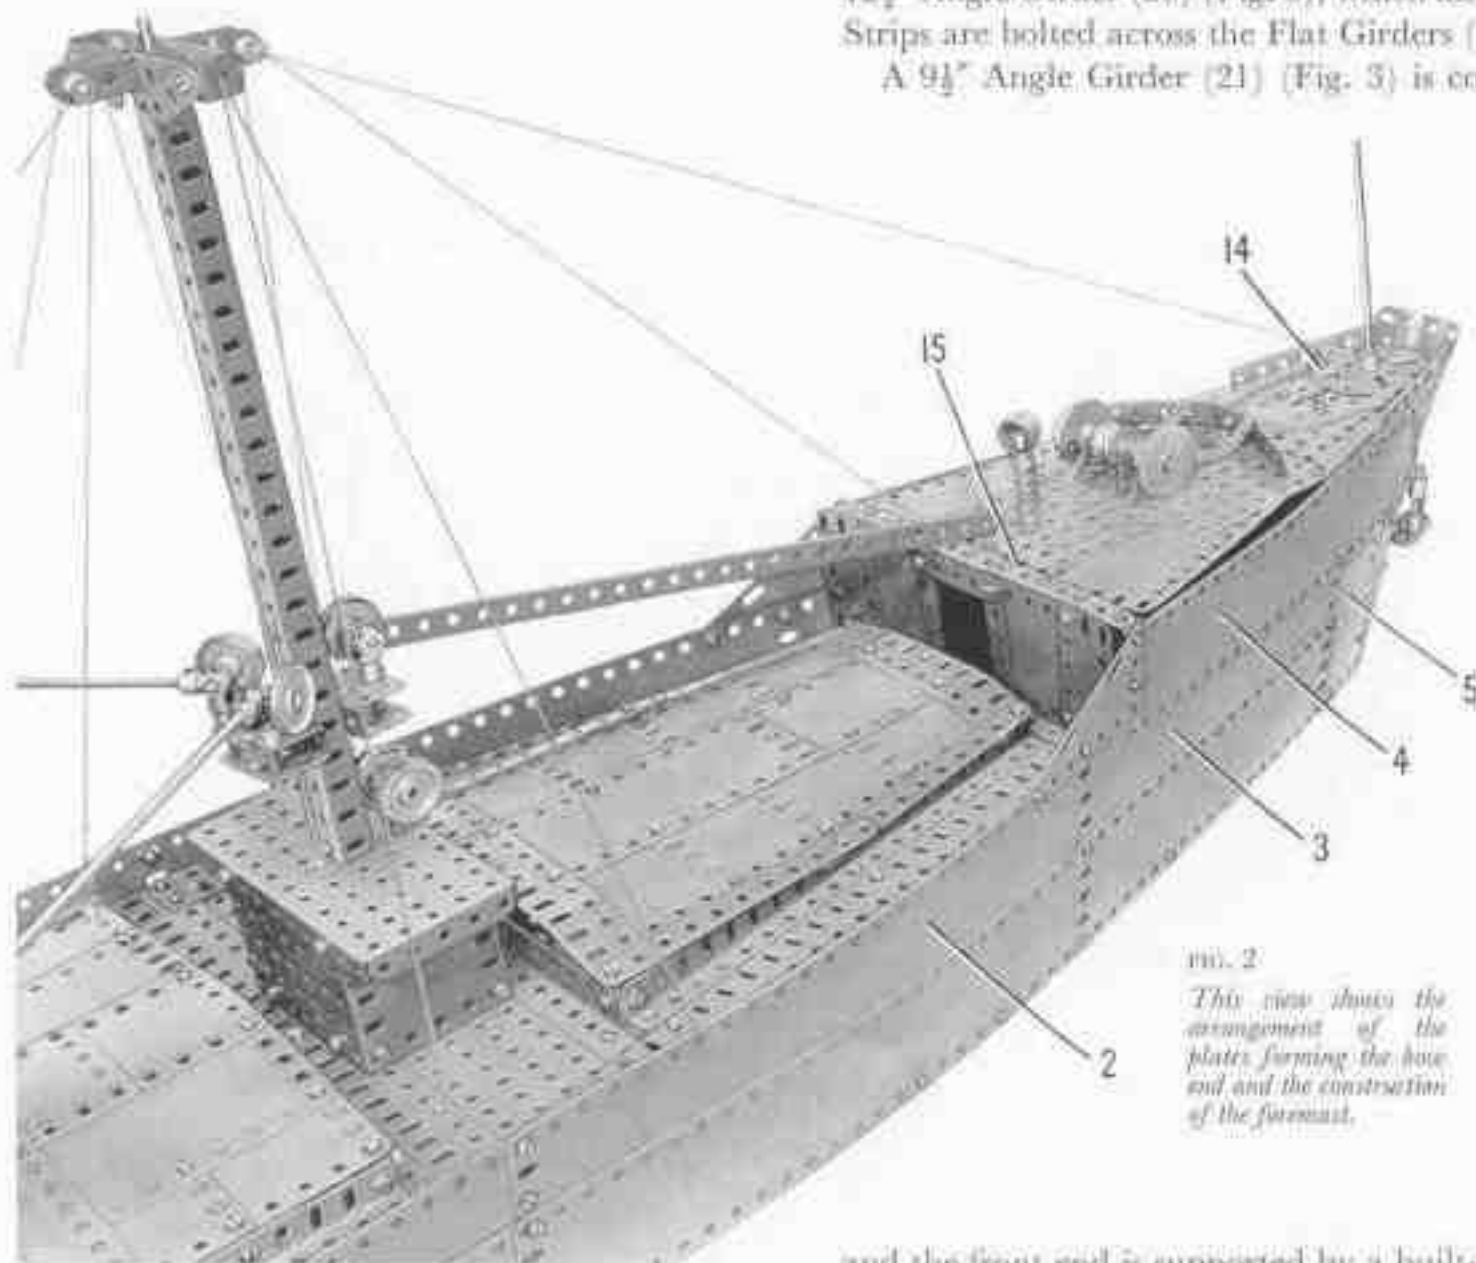
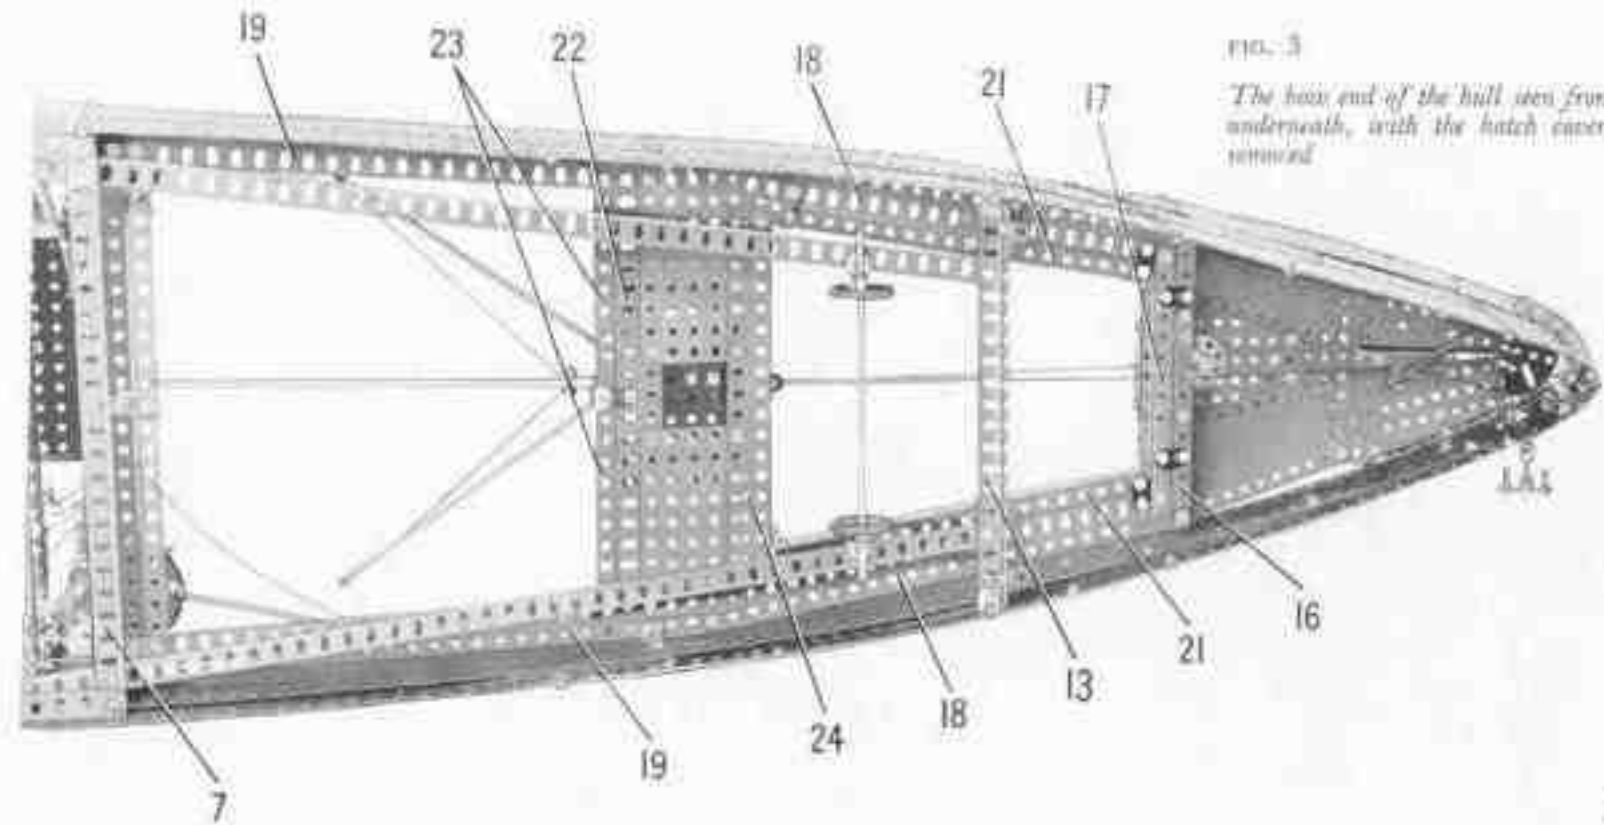

FIG. 2
FIG. 3
The foredeck consists of a Face Plate (14) (Fig. 2) at the bows bolted to two Flanged Sector Plates. Behind the Flanged Sector Plates are two  $5\frac{1}{2}$ "  $\times$   $3\frac{1}{4}$ " Flat Plates, with a  $3\frac{1}{2}$ "  $\times$   $2\frac{1}{2}$ " Flexible Plate on each side arranged at an angle. The aft ends of these Plates are supported by a made-up strip (15), consisting of a  $5\frac{1}{2}$ " and a  $3\frac{1}{2}$ " Strip, which is attached to the top lugs of  $2\frac{1}{4}$ "  $\times$   $\frac{1}{4}$ " Double Angle Strips bolted to the sides. The lower lugs of these Double Angle Strips support a strip (16) (Fig. 3) made from a  $5\frac{1}{2}$ " and a  $2\frac{1}{4}$ " Strip. A  $2\frac{1}{2}$ "  $\times$   $2\frac{1}{2}$ " and a  $2\frac{1}{2}$ "  $\times$   $1\frac{1}{2}$ " Flexible Plate on each side are bolted together and are connected vertically to the strips (15) and (16) by Angle Brackets. They are bolted also to  $2\frac{1}{4}$ "  $\times$   $\frac{1}{4}$ " Double Angle Strips fixed between these strips.
A  $9\frac{1}{2}$ " Angle Girder (21) (Fig. 3) is connected to each Flat Girder (18) by three Fishplates, and  $3\frac{1}{2}$ "  $\times$   $\frac{1}{4}$ " Double Angle Strips are bolted between these Flat Girders and the Angle Girder (13).
A  $9\frac{1}{2}$ " Flat Girder (22), extended by a  $2\frac{1}{2}$ " Flat Girder, is fixed to the Flat Girders (19), and two  $5\frac{1}{2}$ " Strips (23) joined together are also attached to the Flat Girders (19). A  $9\frac{1}{2}$ " Flat Girder (24) is connected to the Flat Girders (18) by a  $1\frac{1}{2}$ " Strip at each end. Two  $4\frac{1}{2}$ "  $\times$   $2\frac{1}{2}$ " Flat Plates are placed between the Flat Girders (22) and (24) as shown in Fig. 3.
The model is completed by adding wheels as shown in Figs. 3 and 4, and by arranging Cord to represent the rigging and the derrick ropes.